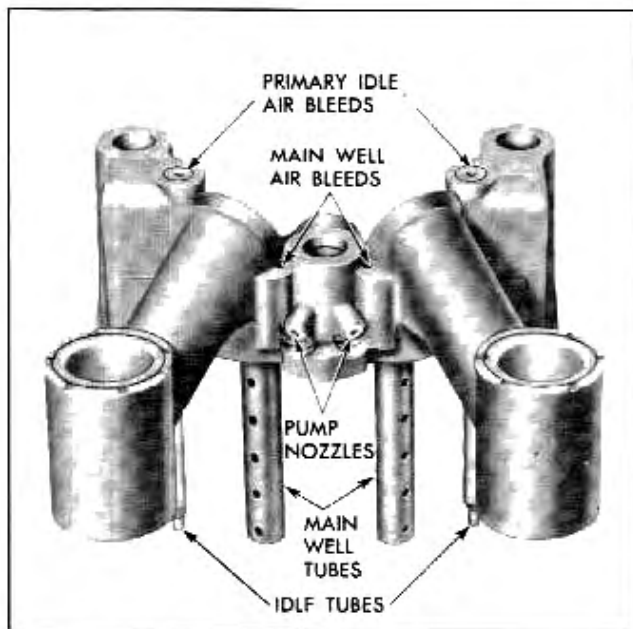

Fig. 6B-17 Passage Identification—Venturi Cluster
2. Blow all passages in castings (Figs. 6B-17 through 6B-21) dry with compressed air and blow off all parts until they are dry. **CAUTION:** Do not pass drills or wires through calibrated jets or passages as they may enlarge orifices and seriously affect carburetor calibration.